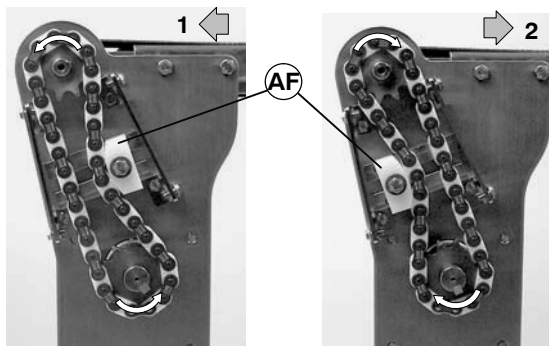

Figure 25
3. Loosen four set screws (AE) and (AH).
4. Remove timing chain (AD) and sprockets (AB and AC) from conveyor input shaft and gearmotor output shaft. Make sure to retain sprocket keys.
5. Depending on conveyor belt travel (direction 1 or 2 of Figure 25), locate timing chain tensioner (AF) as shown. Do not tighten tensioner screw.